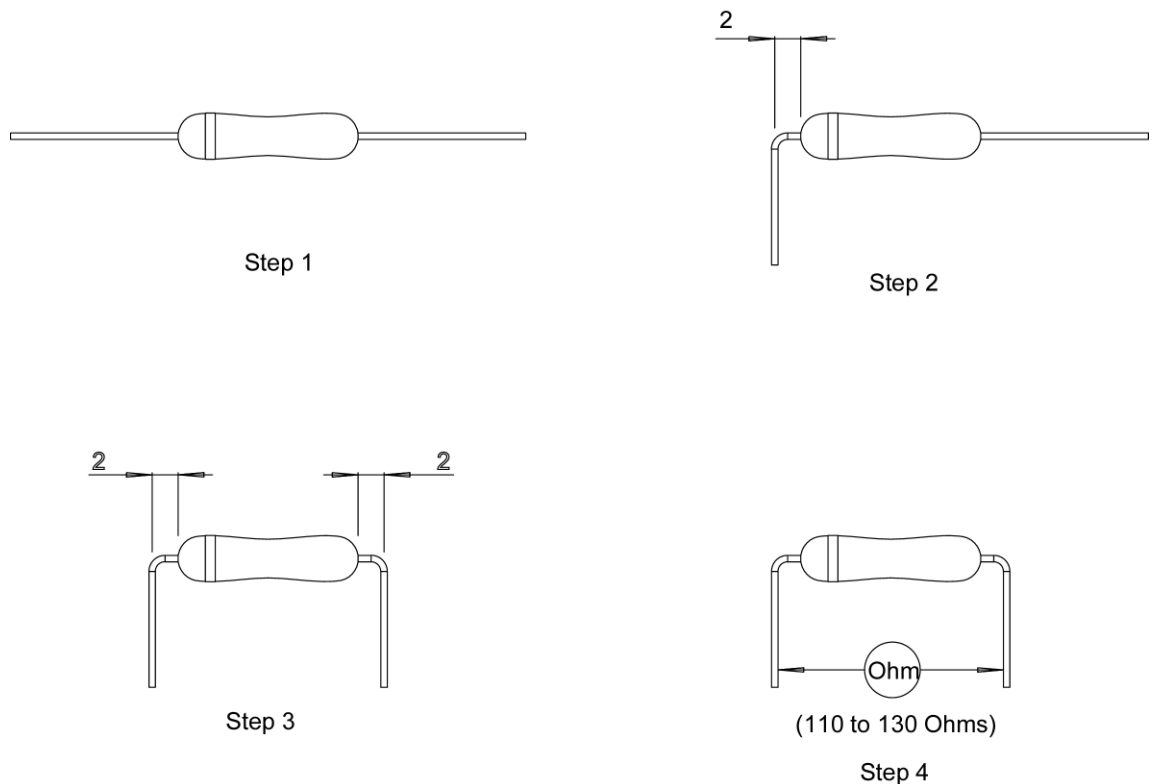

Figure 6. Sensor Lead Bending
- 1 With the needle nose pliers, grip the sensor lead, next to the body of the sensor so that the pliers cover a minimum of 2 mm of the lead. The actual length is to be determined by the application, but will never be less than 2 mm. Refer to Figure 6.